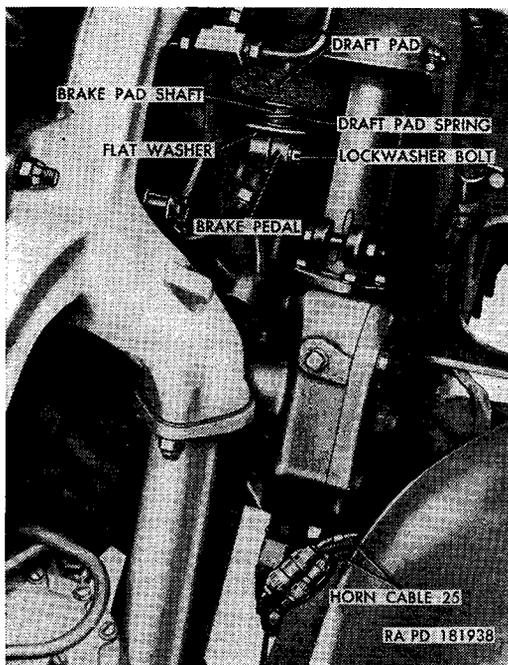
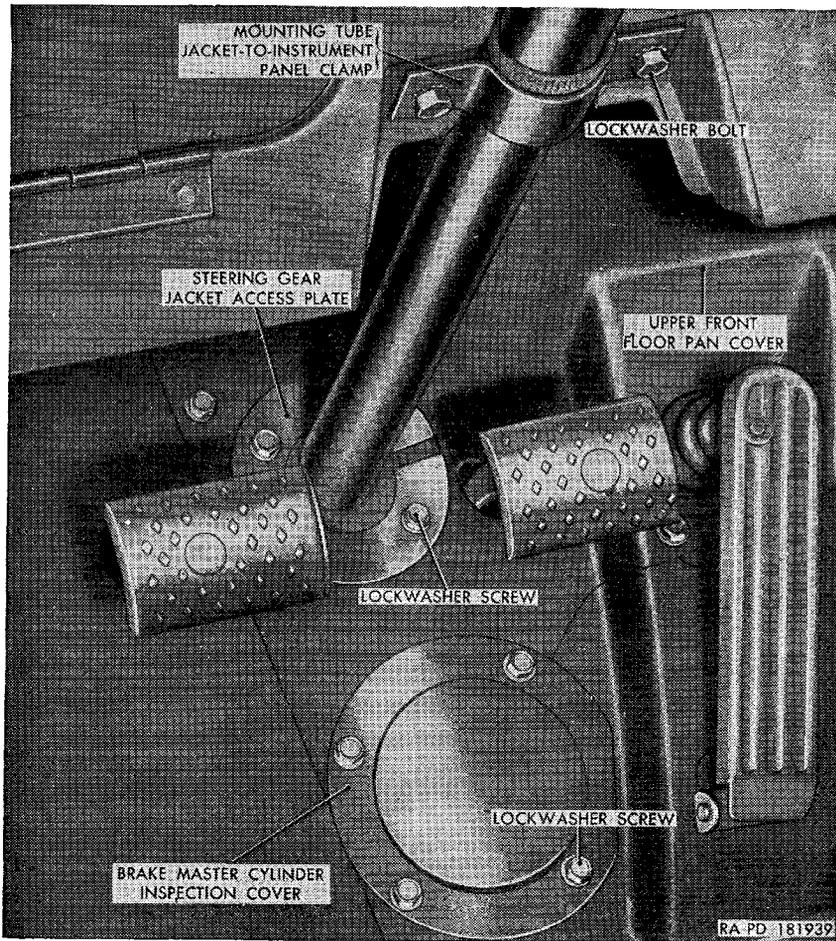
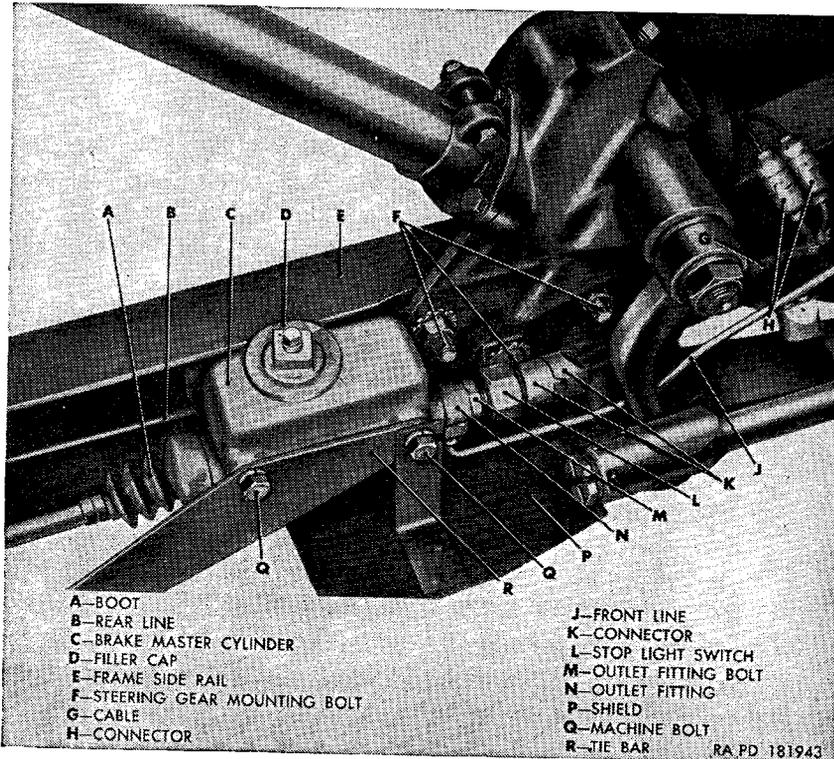

Figure 156. Disconnect points for steering gear removal—engine compartment.
Figure 157. Disconnect points for steering gear removal—driver's compartment.
Figure 161. Brake master cylinder installed—vehicle body removed.
- (1) Removal the steering wheel assembly (par. 229a).
- (2) Disconnect the steering drag link assembly from the Pitman arm (par. 227a(2)).
- (3) Disconnect the two horn cables 25 at the connectors (H, fig. 161).
- (4) Remove the brake master cylinder shield (par. 234b(1)).
- (5) Remove the lockwasher bolt from the brake pedal and pad assemblies (fig. 156) and detach the pad assembly from the pedal.
- (6) Slide the draft pad spring, flat washer, and draft pad (fig. 156) off the bottom of the draft pad assembly shaft, and pull the assembly out of the upper front floor pan cover.
- (8) Remove the four lockwasher screws securing the brake master cylinder inspection cover (fig. 157) to the upper front floor pan, and remove the cover from the pan.
- (9) Remove the two lockwasher screws securing the steering gear jacket access plate (fig. 157) to the body, and remove the plate.
- (10) Remove the 10 lockwasher screws securing the upper front floor pan cover to the body, and lift the cover from the vehicle.
- (11) Remove the three plain nuts, six internal-external-teeth lock washers, and three steering gear mounting bolts (F, fig. 161) securing the steering gear and Pitman arm assembly to the vehicle frame.
- (12) While supporting the steering gear with Pitman arm assembly, remove the two plain nuts and two lockwasher bolts from the mounting tube jacket-to-instrument panel clamp (fig. 157). Detach the clamp and gasket from the instrument panel.
- (13) Work the steering gear with pitman arm assembly out of the vehicle through the driver's compartment.
- (14) Remove the plain nut and lockwasher from the Pitman shaft. Scribe alinement marks on the Pitman arm and Pitman shaft. Using a wedge-type remover, separate the Pitman arm from the Pitman shaft.
- (2) Lower the steering gear with Pitman arm assembly into approximate position through the driver's compartment.
- (3) Aline the mounting tube jacket-to-instrument panel clamp (fig. 157) and gasket with the holes in the panel. Attach
- (4) Align the steering gear housing holes with vehicle frame holes. Secure the steering gear to the frame with three $\frac{7}{16}$ x 3 steering gear mounting bolts (F, fig. 161), six $\frac{7}{16}$ -inch internal-external-teeth lockwashers, and three $\frac{7}{16}$ -inch plain nuts. Tighten the nuts in the mounting tube jacket-to-instrument panel clamp.
- (5) Connect the two horn cables 25 (fig. 156) at the connectors at the bottom of the steering gear on the left side of the engine compartment.
- (6) Install the brake master cylinder shield (par. 234c(8)).
- (7) Make certain that the underside of the upper front floor pan cover (fig. 157) edges are coated with permagum seal 7348567. Position the cover in the driver's compartment with the cover holes aligned with the body holes. Secure the cover to the body with ten $\frac{1}{4}$ x $\frac{5}{8}$ lockwasher screws.
- (8) Make certain that the underside of the steering gear jacket access plate edges are coated with permagum seal 7348567. Position the plate with the plate holes aligned with the body holes. Secure with two $\frac{1}{4}$ x $\frac{5}{8}$ lockwasher screws.
- (9) Make certain that the underside of the brake master cylinder inspection cover edges are coated with permagum seal 7348567. Position the inspection cover on the upper front floor pan cover and secure with four $\frac{1}{4}$ x $\frac{5}{8}$ lockwasher screws.
- (10) From the driver's compartment, insert the brake pad assembly shaft through the upper front floor pan cover from the underside of the cover, slip the draft pad (fig. 156), flat washer, and draft pad spring on the shaft. Insert the shaft into the clamp on end of brake pedal and secure with a $\frac{5}{16}$ x $1\frac{1}{4}$ lockwasher bolt.
Note. The key letters noted in parentheses are in figure 161, except where otherwise indicated.
- (1) Remove the four screws with internal-teeth-lockwashers securing the brake master cylinder inspection cover (fig. 157) to the upper floor pan plate. Remove the cover.
- (2) Remove the filler cap (D) and cap gasket. Fill master cylinder with brake hydraulic fluid to within **one-half inch** of top (par. 69). Install filler cap and gasket.
- (3) Make certain that the underside edge of the cover is completely coated with permagun seal 7348567 and position cover on the upper floor pan plate with the cover holes alined with the plate (fig. 157) holes.
- (4) Secure the cover to the plate with four $\frac{1}{4}$ x $\frac{5}{8}$ screws with internal-teeth lockwashers.
(b) *Installation.* Position the line assembly (Q) between the master cylinder outlet fitting (N, fig. 161) and the flexible line assembly (front tee-to-master cylinder front line) (Y) and install the nuts at each end of the line. Push the line into the clip (R). Install the master cylinder shield (par. 234c(8)). Bleed brakes (par. 237).
(b) *Installation.* Position the line assembly (J) between the outlet fitting (N, fig. 161) and the flexible line assembly (rear tee-to-master cylinder rear line) (H) and install the nuts at each end of the line. Push the line into the three clips (L, M, and N). Install the master cylinder shield assembly (par. 234c(8)). Bleed brakes (par. 237).